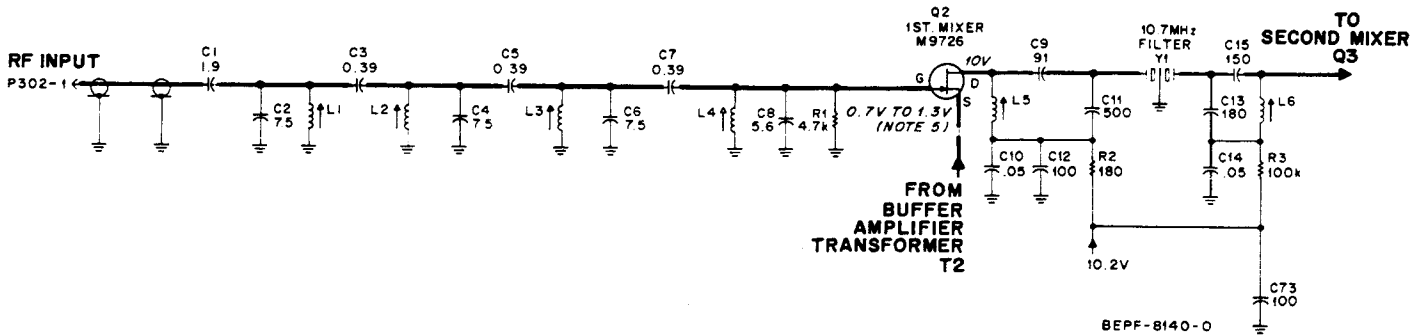

Figure 4. Typical First Mixer Stage
b. First Mixer Stage (Refer to Figure 4)